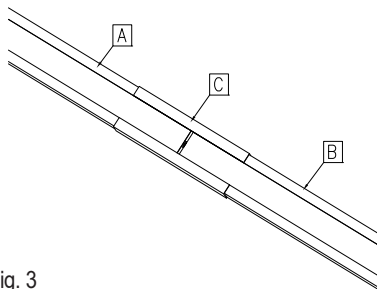

Fig. 3
- Join guides A-B by means of connection profile C (fig. 3).